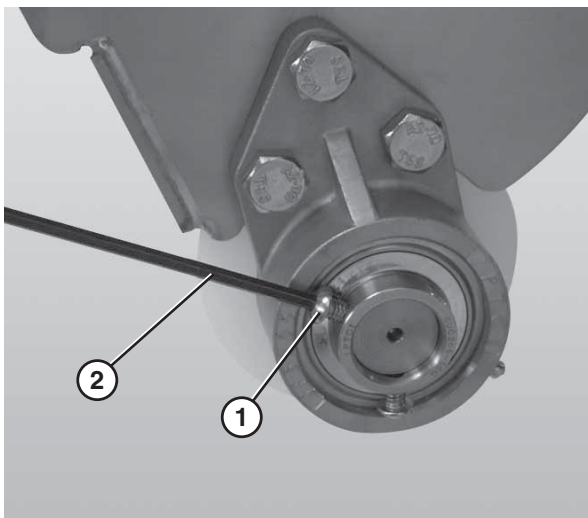

Figure 71
6. Loosen the 3 hole flange (**Figure 71, item 1**) with bearing fasteners using a hex wrench (**Figure 71, item 2**).